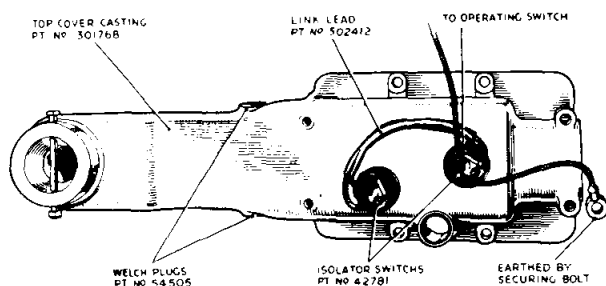

Fig. 41 Top Cover showing Isolation Switches.
3. GEARBOX TOP COVER ASSEMBLY Fig. 41
NOTE. A limited number of cars prior to Chassis No. TS.6280 were fitted with the new cover assembly and can be recognised by the two isolator switch bosses, Fig. 41.
Isolator Switches. The isolator switches, Fig. 41 (Part No. 42781), are not included in the top cover assembly (Part No. 502411) and will therefore be required.
One of the link wires is connected to earth (Fig. 41). The remaining link wire is connected through a snap connector to one side of the operating switch.